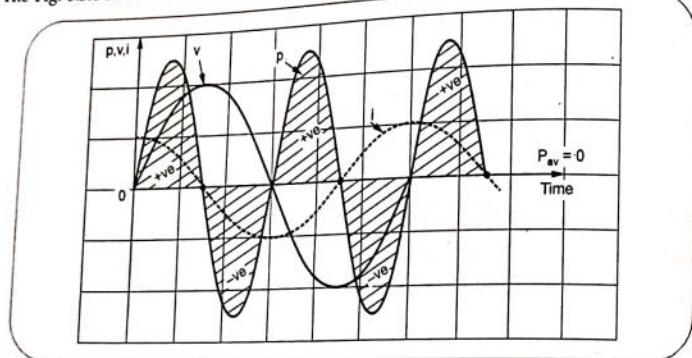

Fig. 3.3.4 Waveforms of voltage, current and power
- The Fig. 3.3.4 shows waveforms of current, voltage and power.